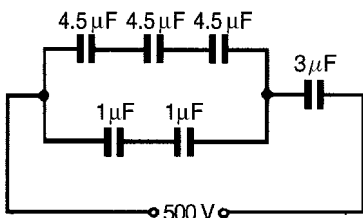

Figure 6.11
- For the arrangement shown in Fig. 6.11 find (a) the equivalent circuit capacitance and (b) the voltage across a $4.5\mu\text{F}$ capacitor.